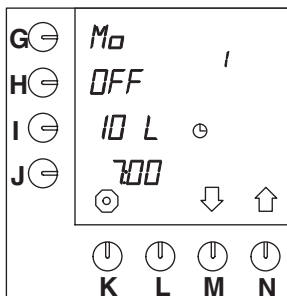

Fig. 12 Default pre-programmed setting
- Subsequently, the next pre-programmed time setting appears on the display (fig.12 ).
- After this the next time setting appears on the display (fig.12 ).